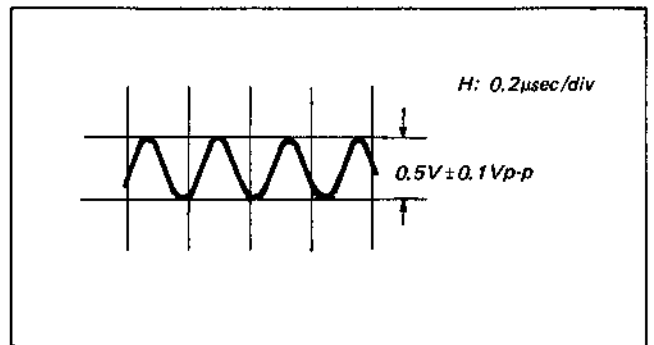

Fig. 4-4-24. Output level check
- (1) Set up the PLAY mode.
- (2) Connect the frequency counter to TP24 (emitter of Q57).
- (3) Adjust T7 for an oscillating frequency of 4.433619 MHz.
- (4) Check that the output level is $0.5\text{ V} \pm 0.05\text{ Vp-p}$. (See Fig. 4-4-24.)